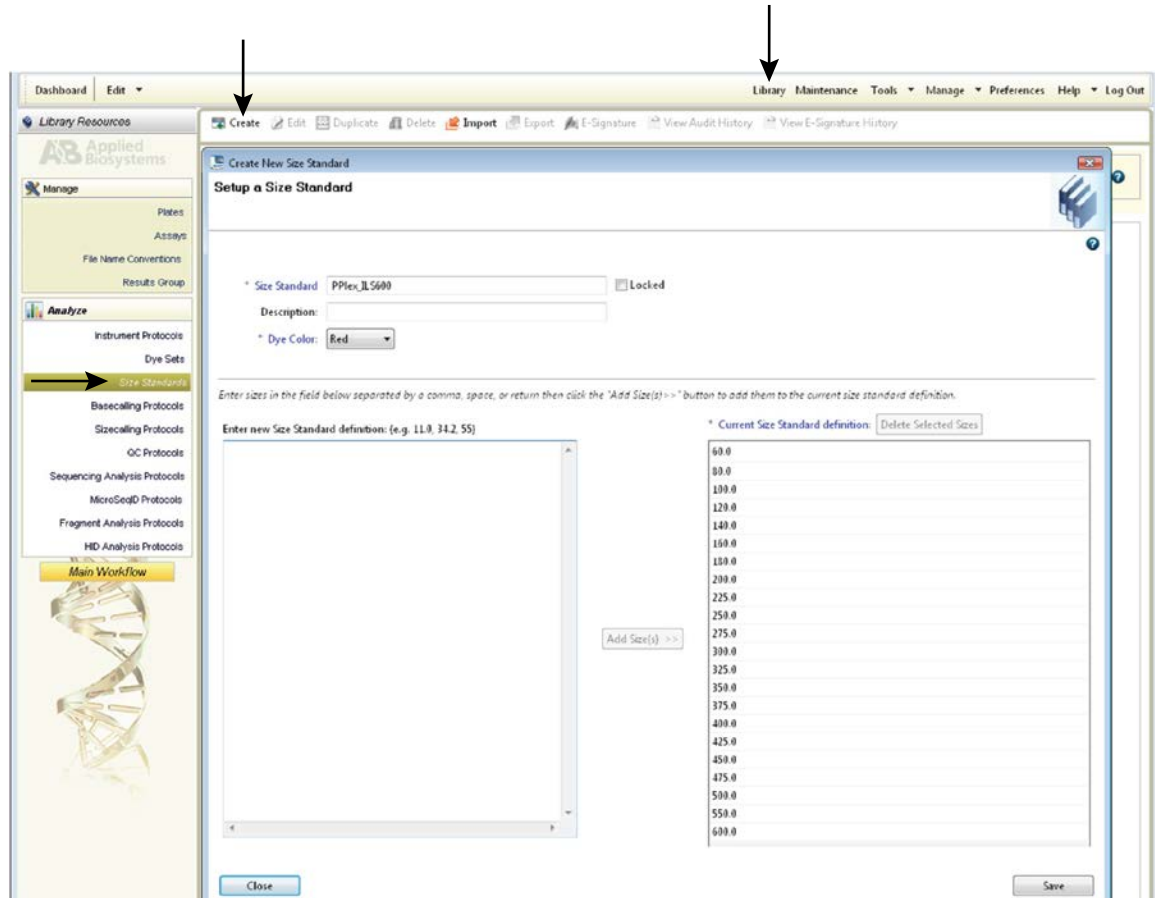

Figure 6. The Create New Size Standard window.
3. To create a new Size Standard for the Sizecalling protocol, navigate to the Library. Select “Size Standards”, then select “Create”. Assign the size standard an appropriate name (Figure 6). Choose “Red” for the Dye Color. Enter the fragment sizes for the size standard: 60, 80, 100, 120, 140, 160, 180, 200, 225, 250, 275, 300, 325, 350, 375, 400, 425, 450, 475, 500, 550 and 600 bases. Select “Add Sizes”, “Save” then “Close”.